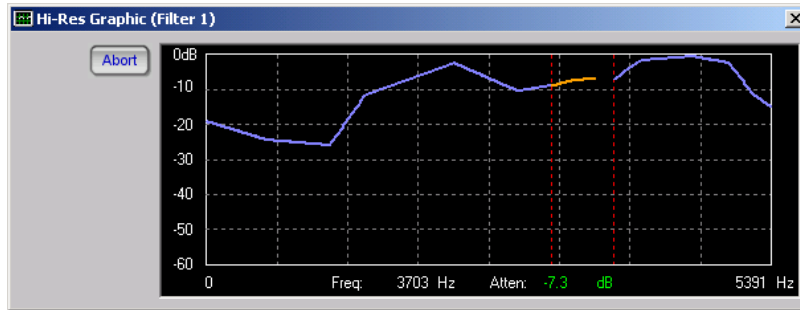

Figure 4-56 Hi-Res Edit In Progress
8. Now, draw in the new portion of the filter curve using mouse clicks as in Step 4, above, roughly as shown below (Figure 4-56).